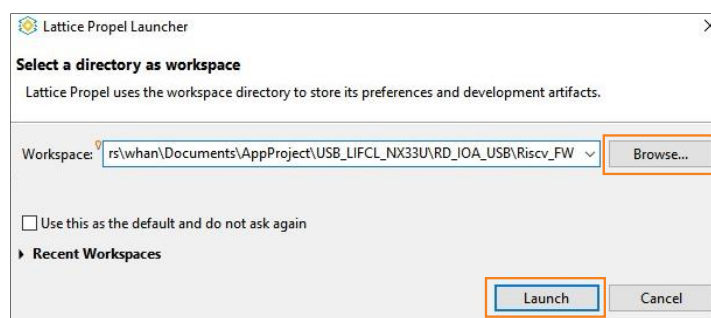

Figure 5.1. Launch Lattice Propel Software Tool
2. Click the **Browse** button to set workspace folder to `.\Riscv_FW`, then click the **Launch** button, as shown in Figure 5.1.